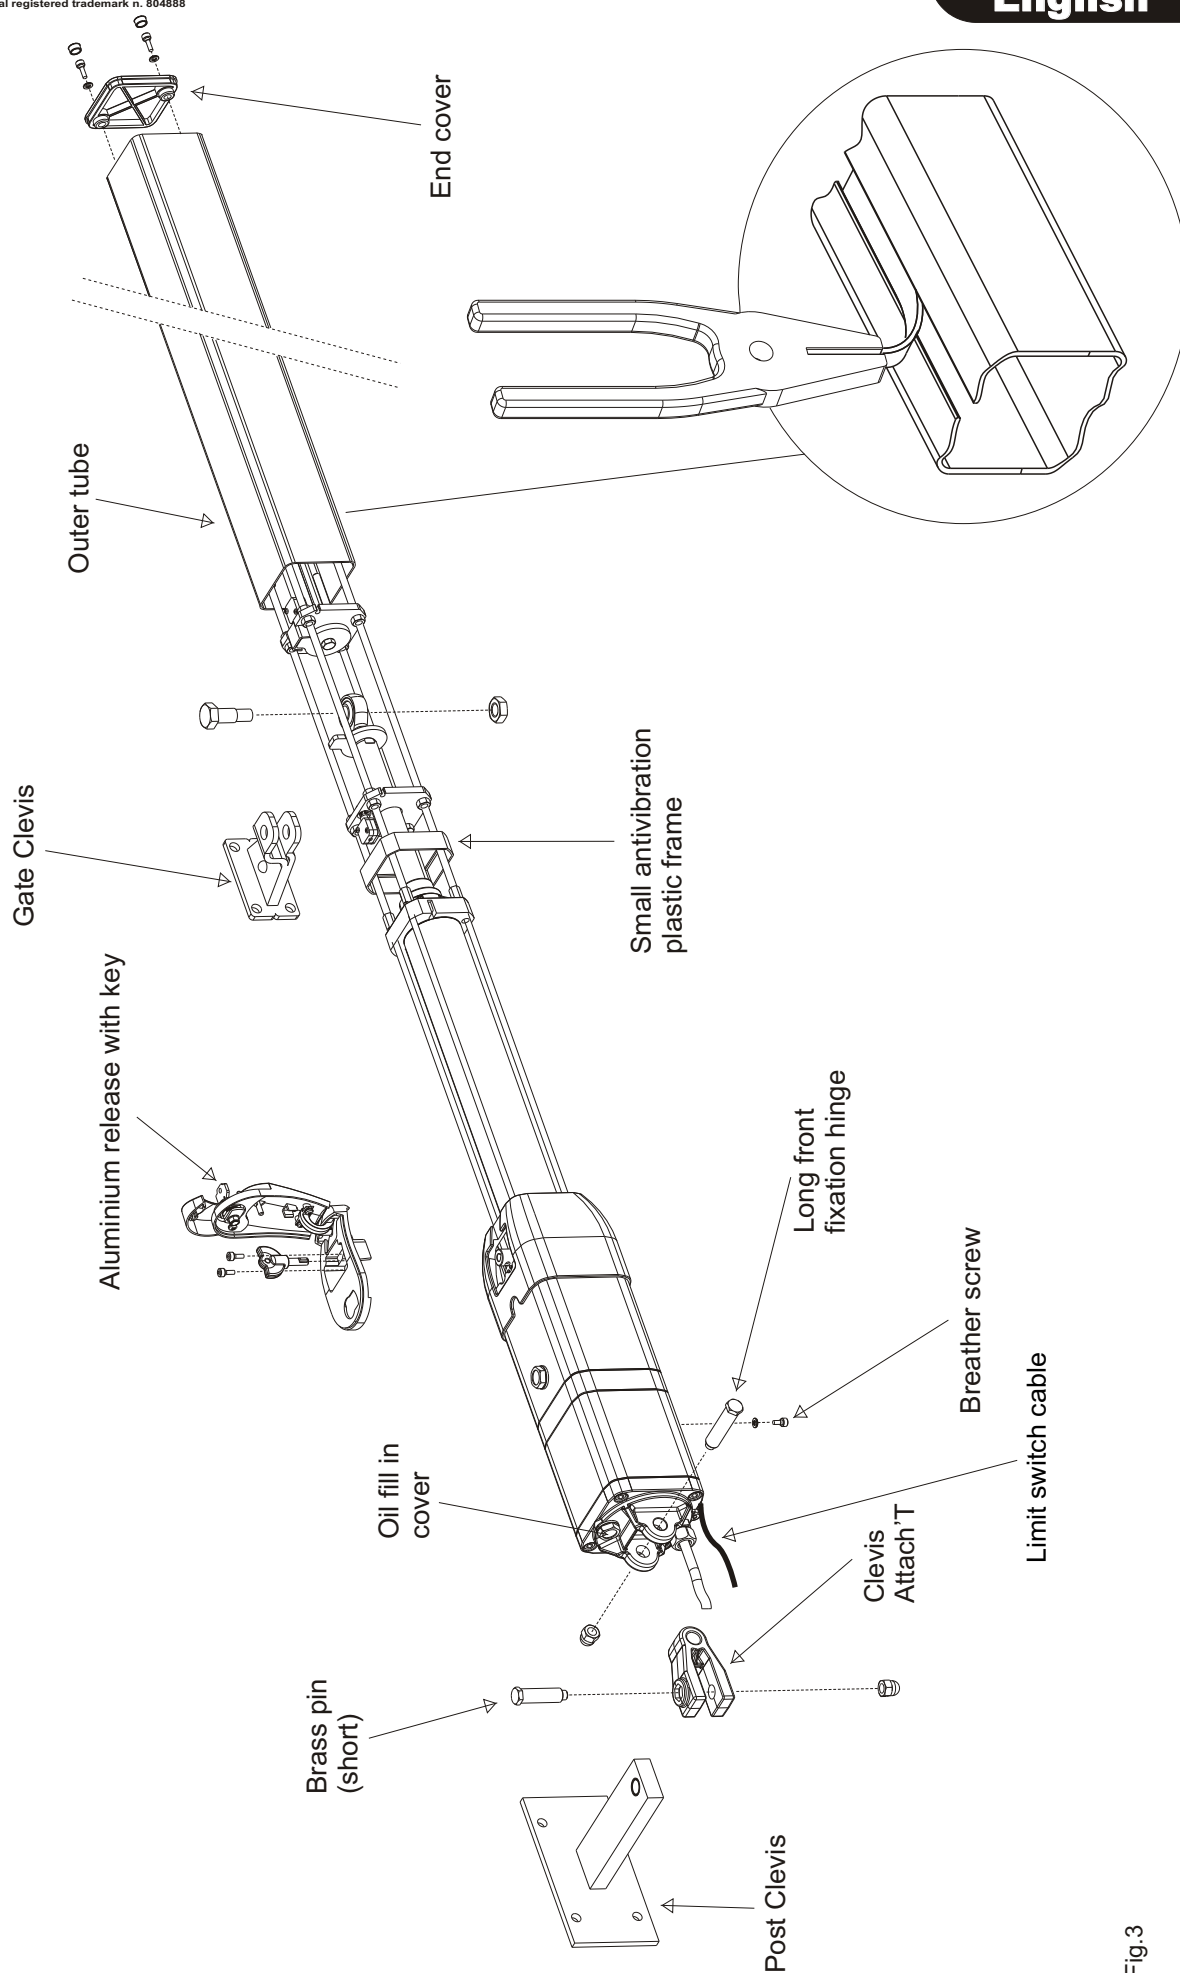

Fig.3
- Open the package carefully, paying attention to not lose the parts reported in fig.3